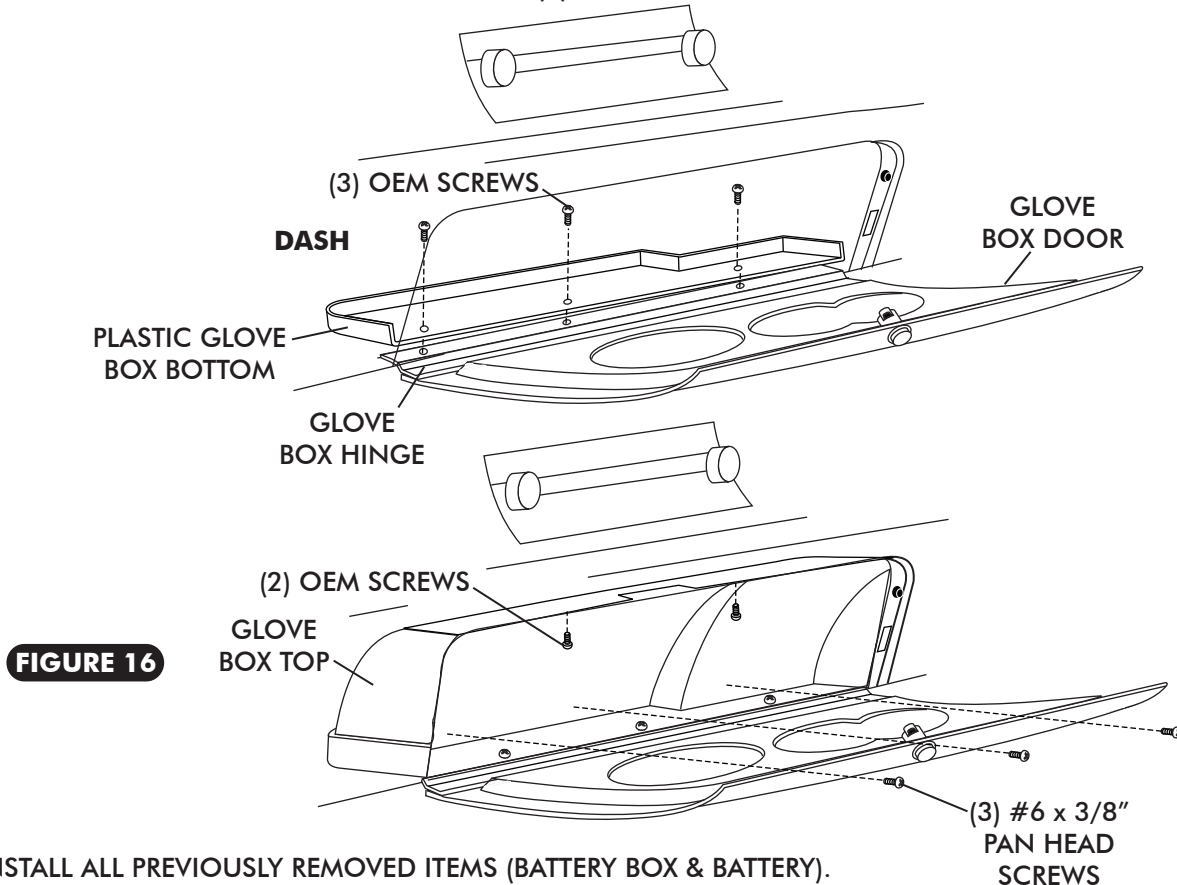

FIGURE 16
- ☐ INSTALL GLOVE BOX BOTTOM AND GLOVE BOX DOOR, SECURE TO DASH WITH (3) OEM SCREWS. SEE FIGURE 16, BELOW.
- ☐ WITH GLOVE BOX BOTTOM AND DOOR IN PLACE, INSTALL GLOVE BOX TOP AS SHOWN, USING (3) #6 x 3/8" PAN HEAD SCREWS ATTACH THE GLOVE BOX TOP TO THE GLOVE BOX BOTTOM AS SHOWN.
- ☐ SECURE THE GLOVE BOX TOP TO DASH USING (2) OEM SCREWS. SEE FIGURE 16, BELOW.